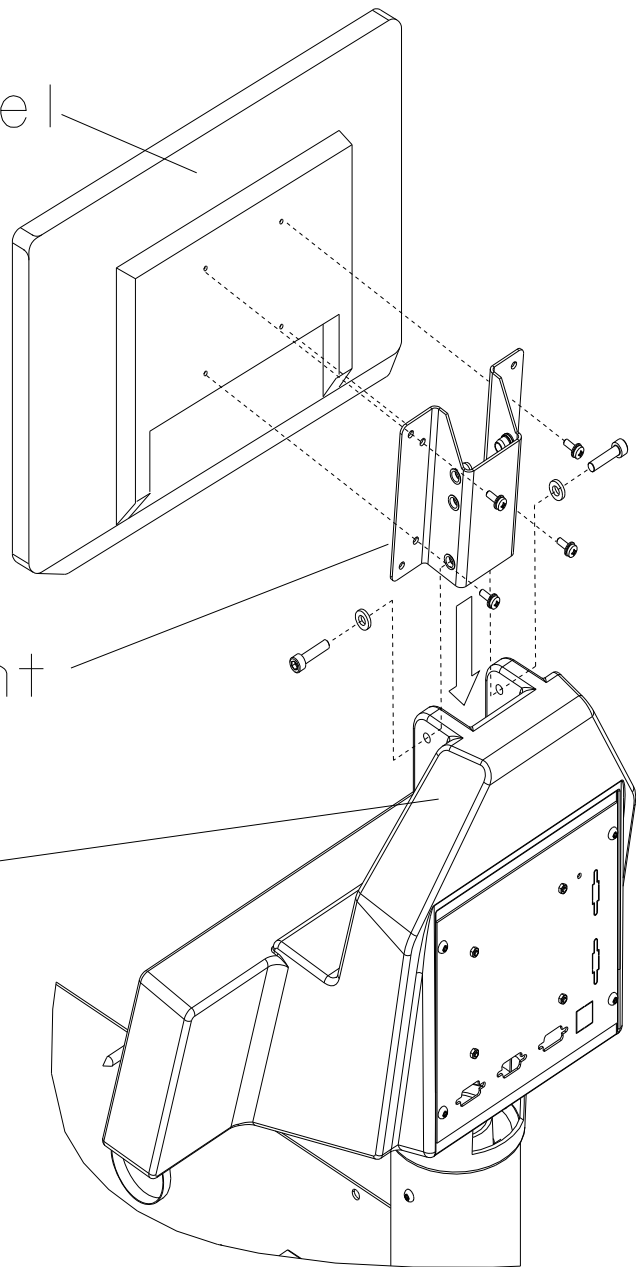

Figure 11
3. Locate the VESA monitor bracket and orientate as shown in Figure 11.